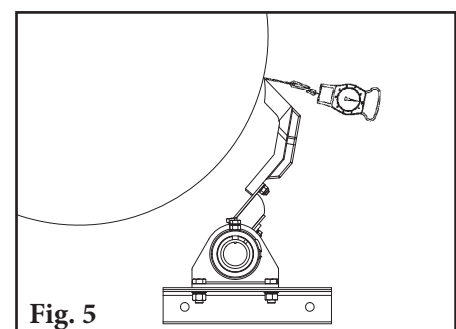

Fig. 5
9. **Cutting the access hole.** Cut an access hole by centring the bottom edge on the adjusted intersecting mark (“+”) established in Step 6. The width of the hole should be 175 mm (7"); the height should be 380 mm (15") for extra small tips, 440 mm (17") for small tips or 485 mm (19") for medium tips, and 515 mm (20") for large tips. The access hole may be oriented within the range shown (Fig. 5), provided that the bottom edge is still centred as described above.
9. **Position the pole.** Rotate the pole upward to bring the tips into contact with the head pulley (Fig. 5). Then centre the tips across the belt. While applying light pressure on the centre tip, shift the loosened bearing mount until tips are contacting the belt evenly across the full width. Lock the cleaner into this position by tightening the bearing mount bolts.
5. **Check for correct blade tip tension.** Place the Tip Tension Gauge between the blade tip and the belt on the centre tip (or tips) (Fig. 5). While pulling in a straight motion, read the tension required to break contact between the tip and belt, 10 kg (22 lbs.) is recommended. Be sure to check the tension on both outer tips. Make tension adjustments if needed.